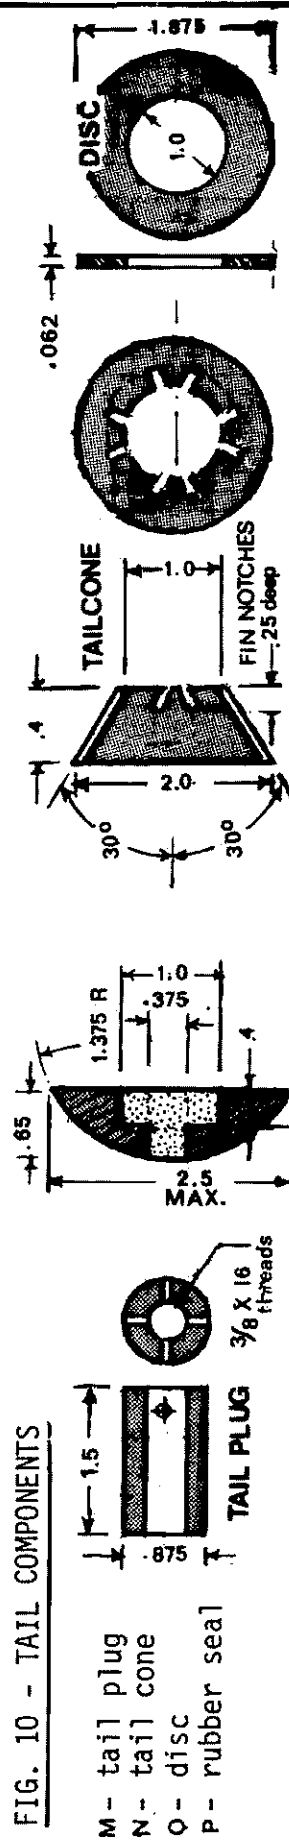

FIG. 10 - TAIL COMPONENTS
9. Construct the tailcone, disc, and plug components as outlined in Fig. 10. Remove the four rear fin screws and slide the above pieces into position. Drill four screw holes through the tail tube into the plug assembly and reinstall the four rear screws. To insure a strong joint, the plug should be coated with epoxy before insertion into the tube.